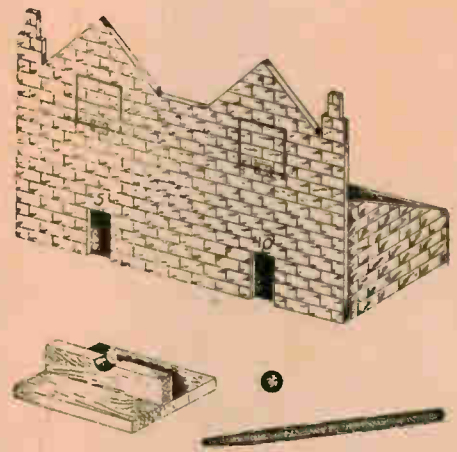
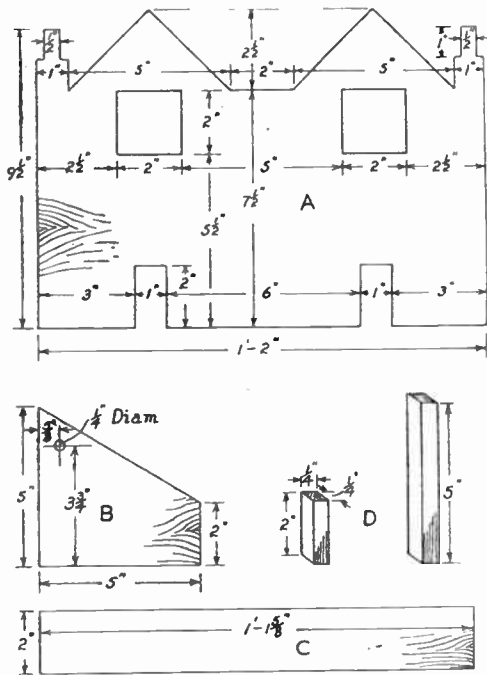

Fig. 1 - The completed alley
Fig. 3—Details of front, back and sides
THE marble alley shown in Fig. 1 is quite an interesting novelty and is well worth making. The article is simple to make, and the construction is such that it can be made quickly since all jointing is done with glue.
Commence making the article by cutting the front indicated in (A) Fig. 3, and a piece of sound $\frac{3}{8}$ in. three-ply is used. Take care to cut the door openings in the position marked, and also the two window openings. The two window shutters are cut from plywood, and these are cut to just fit the openings and are fixed in position with a small hinge as shown in Fig. 1.
Two sides are required and details of these are given in (B) Fig. 3. Cut the sides from $\frac{3}{8}$ in. ply to the size and shape indicated, and take care to drill the $\frac{1}{4}$ in. hole in the position given. A piece of $\frac{3}{8}$ in. ply is cut to size indicated in (C) Fig. 3, which forms the back of the alley.
these are shown in (D) Fig. 3. Two pieces of $\frac{1}{4}$ in. by $\frac{1}{4}$ in. stripwood are required 5ins. long and two 2ins. long as indicated.